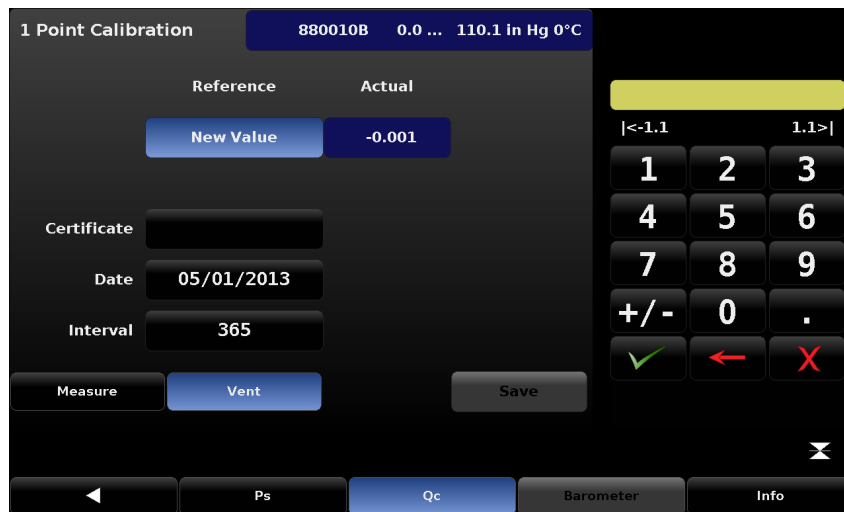

Figure 7.4.3.1a - 1 Point Calibration for Qc in [Vent] mode with [New Value] button pressed
1. Select [Ps], [Pt] or (optional) [Barometer] from the button of the 1 Point Calibration Screen. See figure 7.4.3.1b below.